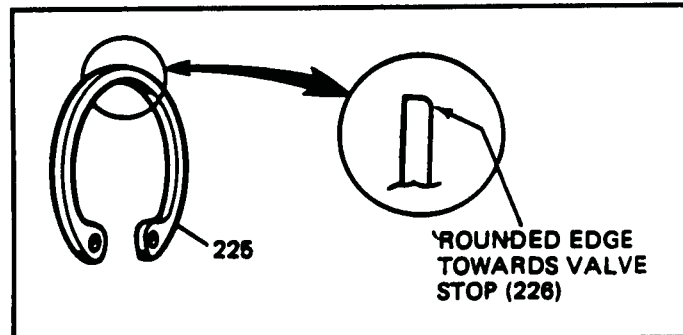

Figure 134
24. Ensure that the snap ring is installed with the rounded edge towards valve (See Figure 134).